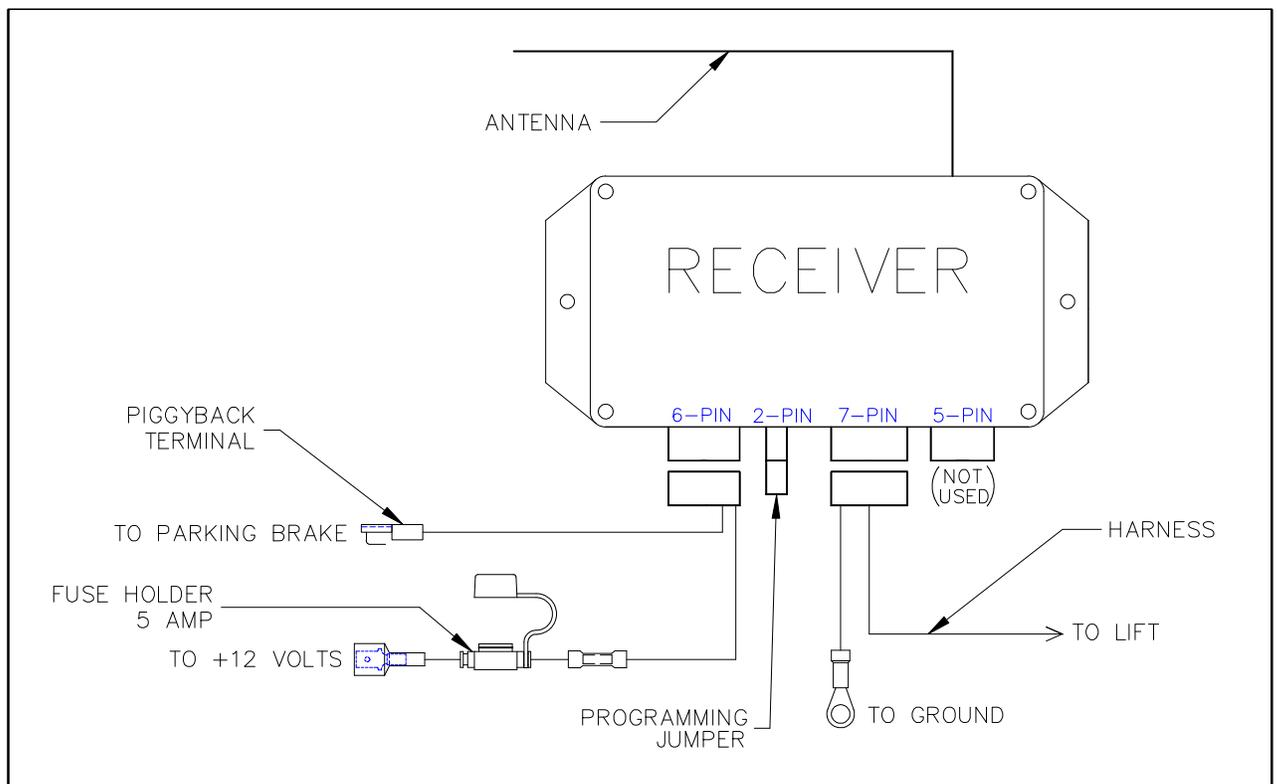

FIGURE 2-1: REMOTE CONTROL WIRING DIAGRAM
Refer to **Figure 2-1**. Installation is performed in eight steps:
3. Connect system components as shown in **Figure 2-1**; lift harness must be connected to lift and ground lead must be connected to ground (this ground lead connection can be temporary). Programming jumper must be installed.